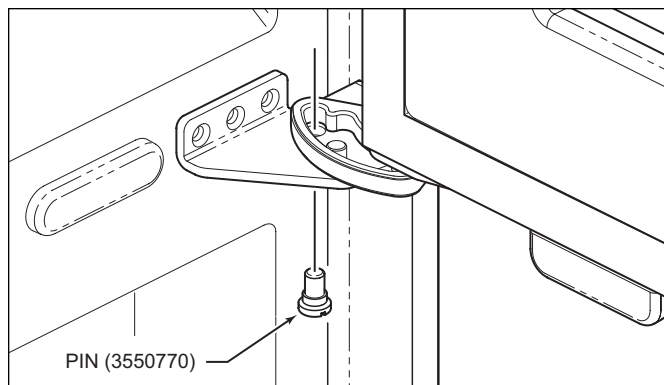

Figure 2-13. 90° Stop Pin (611G, 650G)
- Insert door stop pin up into threaded hole in lower cabinet hinge and tighten (See Figure 2-13).